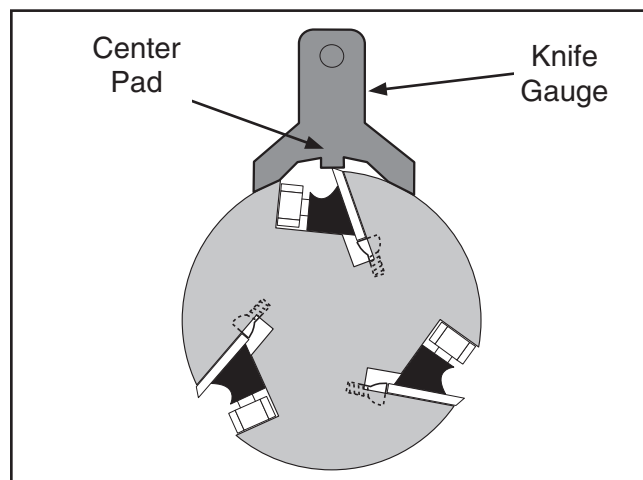

Figure 35. Knife gauge correctly positioned over the knife (G0453 cutterhead shown).
4. If you have not already done so, loosen the cutterhead gib bolts until the knife is completely loose, then position the knife gauge over the knife so that the knife edge is directly under the center pad, as shown in **Figure 35**.